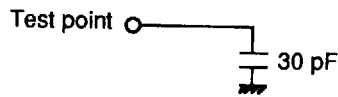

Figure 8 Load Circuit
2. The load circuit shown in figure 8 is connected.